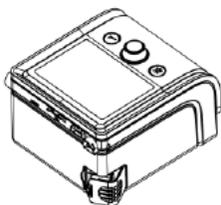

Fig. 11-2
(2) Install the filter cap containing the air filter to the main device, as shown in Fig.11-2.